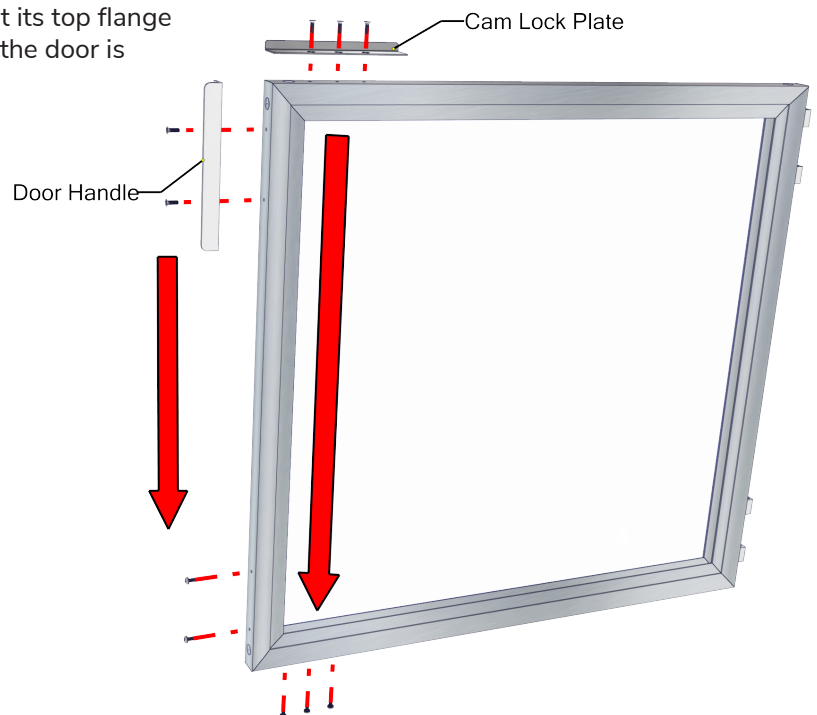

Fig. 168: Move Door Handle and Cam Lock Plate
3. Unscrew the Door Handle and Cam Lock Plate from their present position and move them to the other side of the door. Make sure to "mirror" the Cam Lock Plate so that its top flange will be flush against the warming cabinet when the door is reinstalled in its new position (Fig. 168).